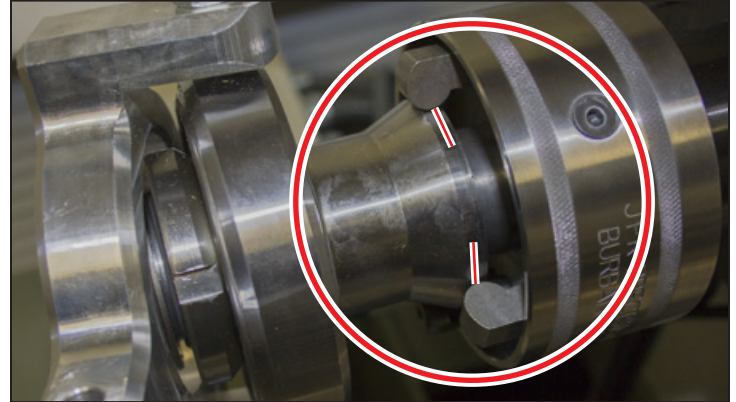

Figure 25
4. Move the collet handle to the locked position (away from the headstock); ensure cams are centered on the hub as shown in **Figure 25**. If the cams are not centered on the hub:
- Slide unit forward or backward until cams rest in center of hub as shown in **Figure 25**.